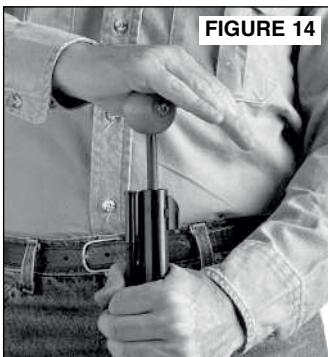

FIGURE 14
• Once the ball is started into the barrel, reverse the bullet starter as shown (FIGURE 14), and place the rod end on the top of the ball. With a sharp blow of the hand, drive the ball down about four inches into the barrel. The ball and patch have now been formed to the rifling and will (if the bore is not fouled) load easily the rest of the way down the bore until it rests firmly on the powder charge.